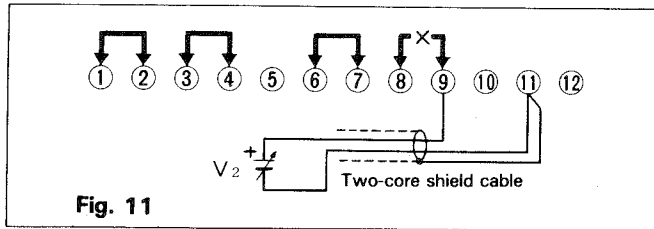

Fig. 11
- 2) Remove the short bar ⑧-⑨ and connect external voltage  $V_2$  across ⑨ and ⑪ as shown Fig. 11. Be very careful about the polarity.